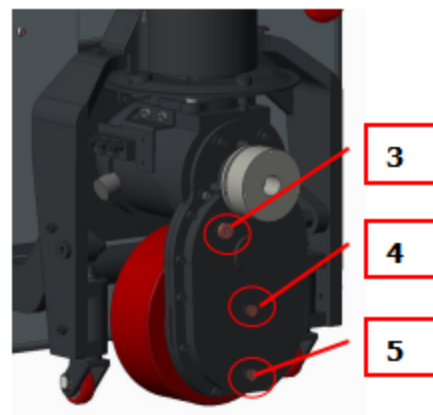

Figure 22
- (Fig.22) 3 is the oil filling hole, 4 is the Spilling oil hole, 5 is the drain hole. Screw off screw 5 to drain oil when replacing gear oil. Tighten screw 5 after the oil is drained. Remove screw 3 to fill new gear oil into the gear box with a funnel. Required oil amount is 320ml. To check if there is enough oil refilled, set the gear box quietly for 10mins to see if there is oil spills from the spilling hole by removing screw 4. If there is no oil coming out from the oil, fill more oil until seeing some spilled oil.